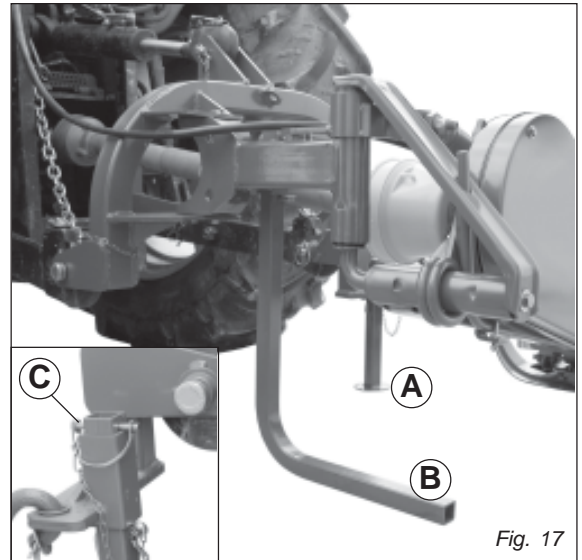

Fig. 17
The sickle bar must be set-up on flat and compact ground, supported by the relative supports (A and B, Fig. 17).
2. Put parking stand (A and B, Fig. 17) in the DOWN position: install spring locking pin in order to secure parking stand (C, Fig. 17).
- 17) Before operating the mowing machine, check that the support struts (A and B, Fig. 17 page 15) have been removed from underneath the implement. Make sure that the sickle bar has been correctly mounted and adjusted. Check that the machine is in perfect order and that all components subject to wear and deterioration are efficient.